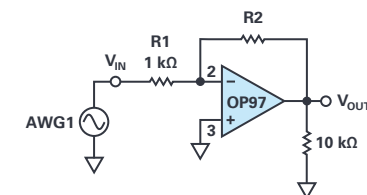

Figure 8. Inverting amplifier configuration.
Figure 8 shows the conventional inverting amplifier configuration with a 10 kΩ load resistor at the output.
Now change the feedback resistor  $R_2$  in Figure 8 from 4.7 kΩ to 10 kΩ. What is the gain now? Slowly increase the amplitude of the input signal to 2 V and export the waveforms into your lab notebook. The output voltage of any op amp is ultimately limited by the supply voltages, and in many cases the actual limits are much smaller than the supply voltages due to internal
- ▶ Considering the inverting amplifier in Figure 8, compute the gain as a function dependent on  $R_1 = 1 \text{ k}\Omega$  and  $R_2 = 4.7 \text{ k}\Omega$ .